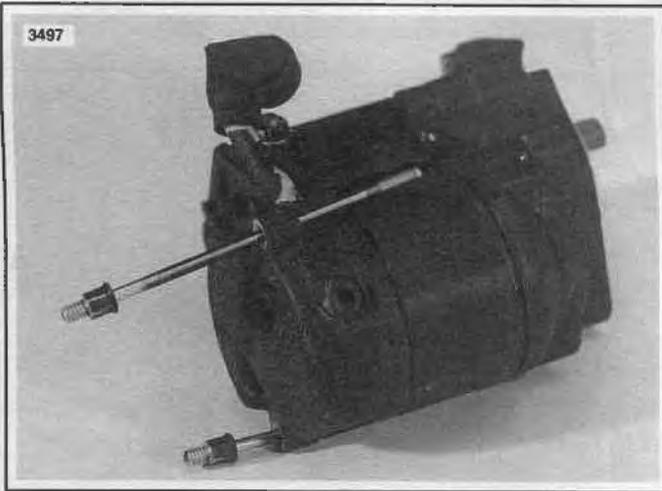

Figure 5-11. Remove Thru-Bolts
1. See Figure 5-11. Disconnect field wire (1).